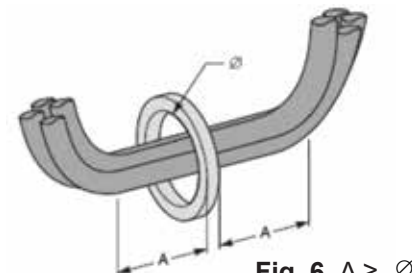

Fig. 6 $A \geq \phi$
5. Place the toroid on a straight section of cable, not near a bend (see Fig. 6)